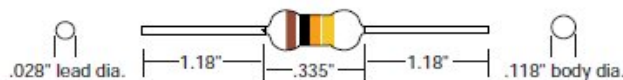

Figure 1.11 Carbon Film Resistors
There are four (4) colored bands on the common carbon composition resistor as shown in figure 1.11, above. Please note that the overall **BODY COLOR** of a resistor has **NOTHING** to do with its resistance value or power handling capabilities.